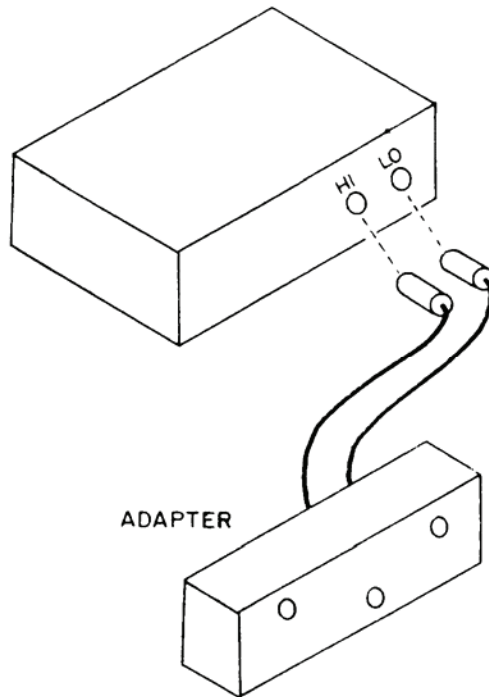

Figure 1. Adapter connection-equipment setup.
- h. Connect adapter (furnished with TI) to TI as shown in figure 1.
- (11) Connect adapter (furnished with TI) to TI as shown in figure 1.
- (12) Connect the 1 GΩ resistor of resistance standard set to adapter furnished with TI.
- (13) Repeat technique of (2) through (8) above. Position controls as listed in table 4 to correspond to resistor being measured. If average value in (8) above is not within twice the calibration test report accuracy (see footnote, table 1) for the 1 GΩ resistor, perform **b** below.
- (14) Repeat technique of (12) and (13) above for the 10 GΩ resistor of resistance standard set, except no adjustment can be made.